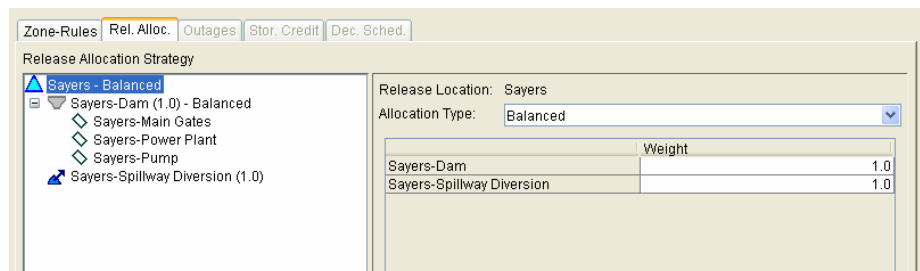
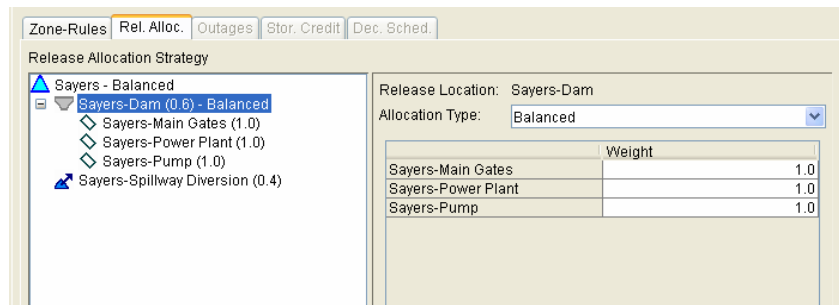

Figure 11.96 Release Allocation Editor - Release Allocation Type for Reservoir is Evenly Balanced between Dam and Diverted Outlet
Figure 11.97 Release Allocation Editor - Release Allocation Type for Dam is *Evenly Balanced* between Three Outlets
2.  The **Release Allocation** tab becomes available (Figure 11.96). From this editor, you can specify the **Allocation Type** and component **Weightings** for the Reservoir, the Dam(s), and the Diverted Outlet(s).
- **Balanced:** As previously shown in Figure 11.96, the *Reservoir's* Allocation Type is Balanced, and the total release from the reservoir is evenly weighted (i.e., 1:1 ratio) between the Dam (1.0) and the Diverted Outlet (1.0). A Balanced allocation type can also be specified as being unevenly weighted (e.g., a release distribution of 60% through the Dam and 40% through the Diverted Outlet) by entering the appropriate weights (0.60 and 0.40). The release allocation for the reservoir's *Dam outlets* (Main Gates, Power Plant, and Pump) can be *evenly balanced* (as shown in Figure 11.97) or *unevenly balanced* using weighting factors for a desired distribution.